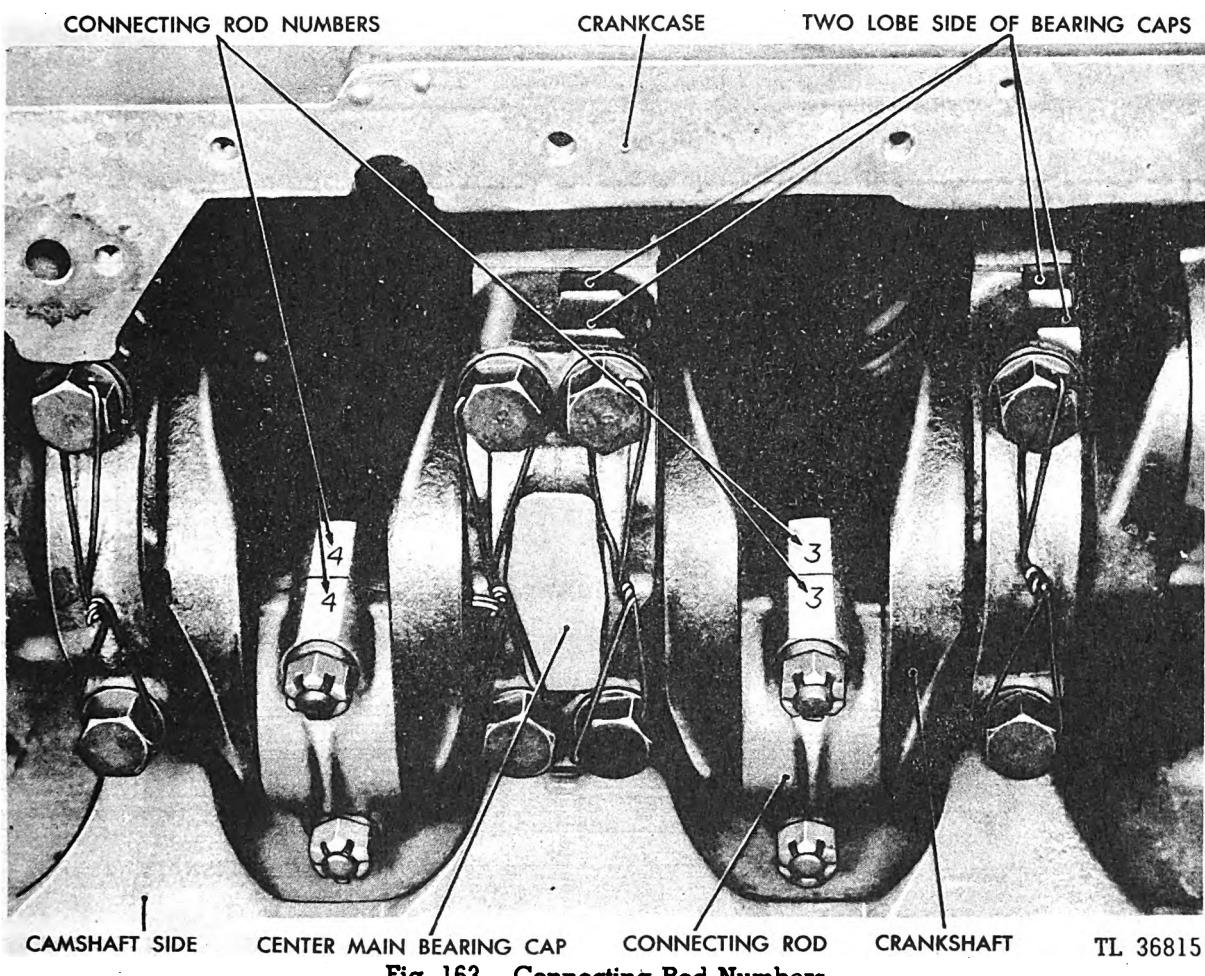
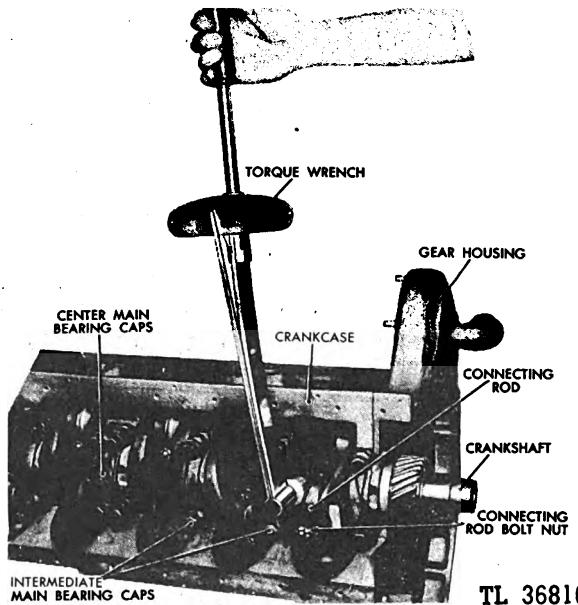

Fig. 163. Connecting Rod Numbers
Fig. 164. "Torqueing" Connecting Rod Capscrews
NOTE: The piston and connecting rod assembly should be fitted into the proper cylinder, making certain that No. 1 piston is in No. 1 cylinder with the designating number facing the right side of the engine (opposite of the camshaft), and so on for each respective piston and cylinder. (See Figure 163.) With the handle of a hammer, lightly tap the piston and connecting rod assembly into the cylinder sleeve,
(3) Install the connecting rod cap and make sure that the number on the cap corresponds and lines up with the number on the connecting rod. (See Figure 163.) The caps are not interchangeable or reversible. Tighten each cap separately with a torque wrench. The torque should be between 95 to 105 foot pounds. (See Figure 164.) First torque each nut to its lowest value and then check to see